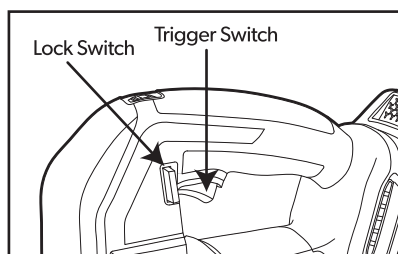

Figure 4
2. Squeeze the Trigger to turn on the Jigsaw. If operating the Jigsaw for an extended period of time, press the Trigger Lock to lock the Trigger in its "ON" position. See Figure 4, right.